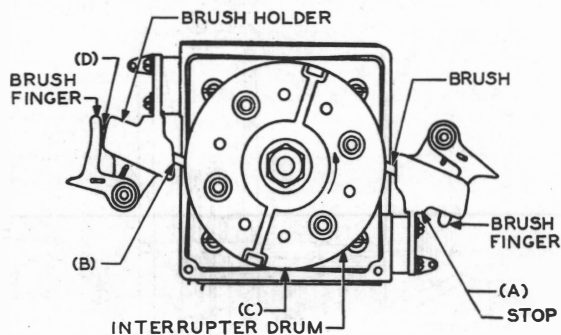

Fig. 15 - Location of Interrupter Brush
2.15 Position of Brush Finger: Fig. 15(A) - With the brush finger resting on the brush, there shall be a clearance between the brush finger and its stop.
2.16 Brush Fit: Fig. 15(B)
2.17 Eccentricity of the Interrupter Drum: Fig. 15(C) - The eccentricity of the interrupter drum shall not exceed 0.005 inch. Gauge by eye.
2.18 Brush Finger Tension: Fig. 15(D) - When the inside edge of the brush finger coincides with the upper corner of the brush holder, as gauged by eye, the tension of a brush finger, measured parallel to the length of the brush at a point in line with the face of the brush nearest the end of the brush finger, shall be